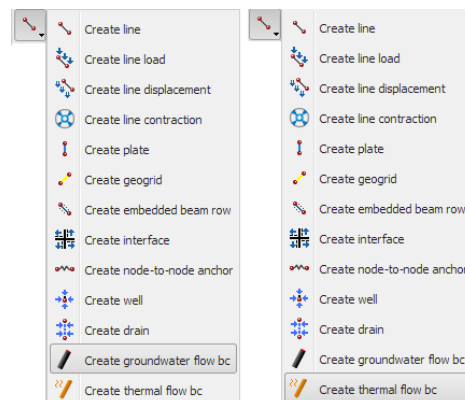

Figure 16.2 The *Create thermal and groundwater flow bc* option in the *Create line* menu
-  Select the *Create thermal flow BC* option in the expanded menu. In the draw area create a thermal boundary condition from (0.0 0.0) to (85.0 0.0) (Figure 16.2).
-  Click the *Create line* button in the side toolbar, select the *Create groundwater flow BC* option in the expanded menu. In the draw area create a groundwater flow boundary condition from (0.0 0.0) to (85.0 0.0) (Figure 16.2).